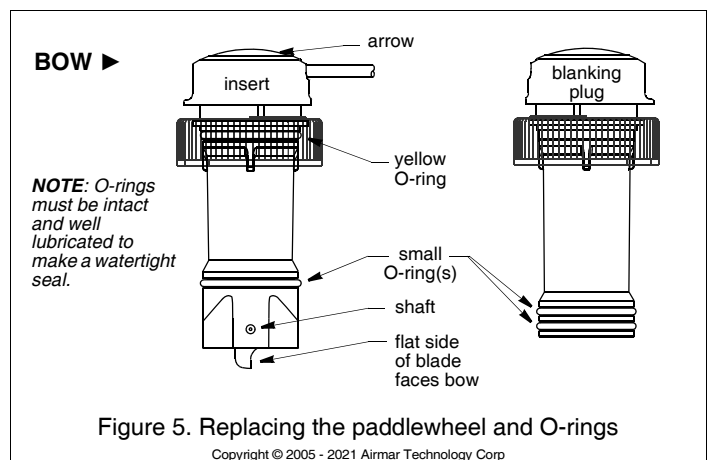

Figure 5. Replacing the paddlewheel and O-rings
5. *All the O-rings must be intact and well lubricated to make a watertight seal.* After the marine sealant cures, inspect the O-rings on the insert (replace if necessary) and lubricate them with the silicone lubricant supplied (Figure 5). Be sure the **YELLOW** O-ring is in place near the top. Also lubricate the bore of the housing above the valve.
1. *All the O-rings must be intact and well lubricated to make a watertight seal.* On the blanking plug, inspect the O-rings (replace if necessary) and lubricate them with the silicone lubricant supplied or petroleum jelly (Figure 5).
1. To remove the old paddlewheel shaft, grasp the end with small diagonal wire cutters and pull (Figure 5).